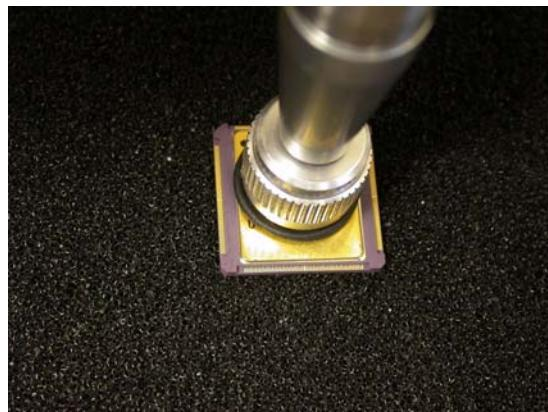

Figure 4 • Pick and Place the CC256
1. Very carefully attach a vacuum pick-up tool on the central area of the lid to pick-up and place the CC256 devices from the shipping container box to the socket or from socket to shipping container box (Figure 4).